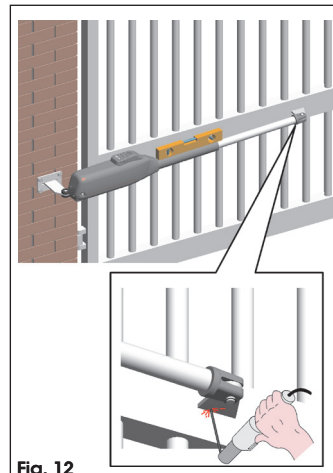

Fig. 12
9. Close the leaf and, keeping the operator in a perfect horizontal position, determine the fastening point of the front bracket (Fig. 12).
10. Temporarily fix the front bracket with two welding spots (Fig. 12).